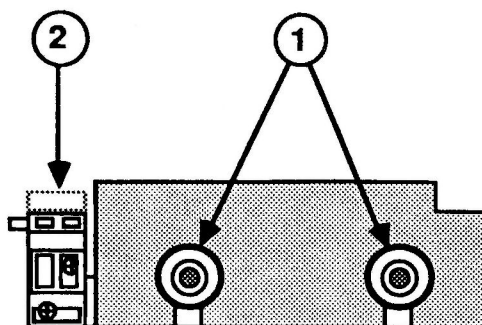

FIGURE 3
7. Orient the drive sideways, as shown in Figure 3, and remove the two Phillips screws (Figure 3, #1). Then turn the drive so that you face the other side, and remove those two screws.
8. Lift up on the sub-bezel (Figure 3, #2) and carefully slide the mechanical assembly out of its metal housing.
2. Replace the Phillips screws (Figure 3, #1) on both sides of the drive to secure the mechanical assembly inside the metal housing.